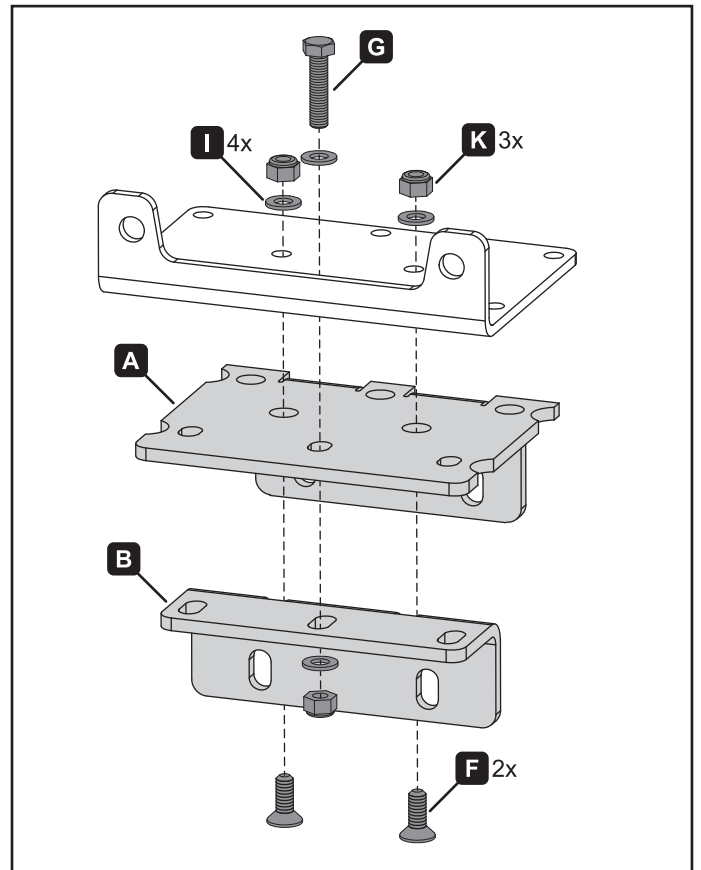

Figure 4. Wide winch configuration
- Attach the fairlead bracket included with your winch to the winch mount (A) and support bracket (B) with bolts (F, G), washers (I) and nuts (K) as shown in figure 4.